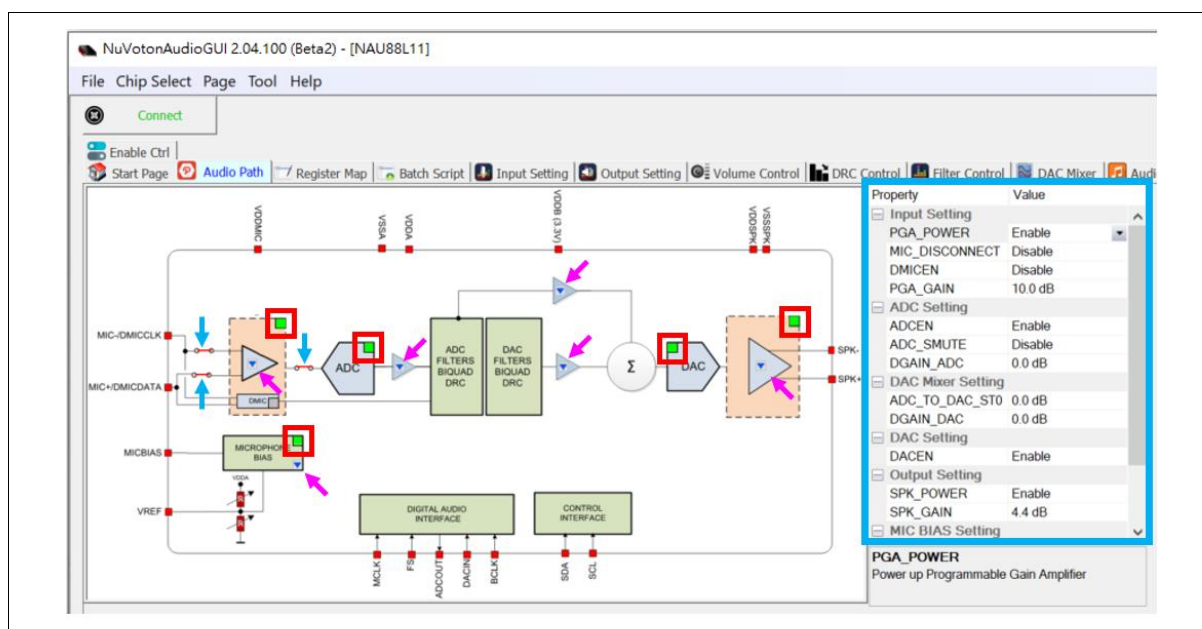

Figure 3-9 Audio Path Page on NuvotonAudioGUI
- Click on the red boxes in Figure 3-9 to adjust the power of this function. When power is on, the box will be green. When Power is off, the box will be gray.
- Click on the blue arrows in Figure 3-9 to adjust the enabling status of the path.
- Click on the pink arrows in Figure 3-9 and a drop-down menu will appear, where the user can adjust the Gain there.
- The blue box in Figure 3-9 lists the current graphical status here in text form. The user can also modify the status of the function from here.